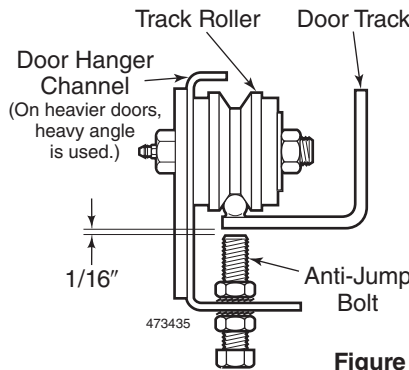

Figure 8
4. Install the Anti-Jump Bolt to keep the door on the track. Adjust to a gap of 1/16". See Figure 8.